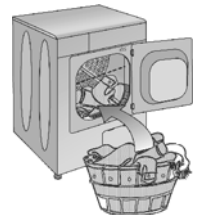

Fig.4 Loading the laundry
- Adding laundry to the machine more than the level shown in Fig.4 is not recommended.